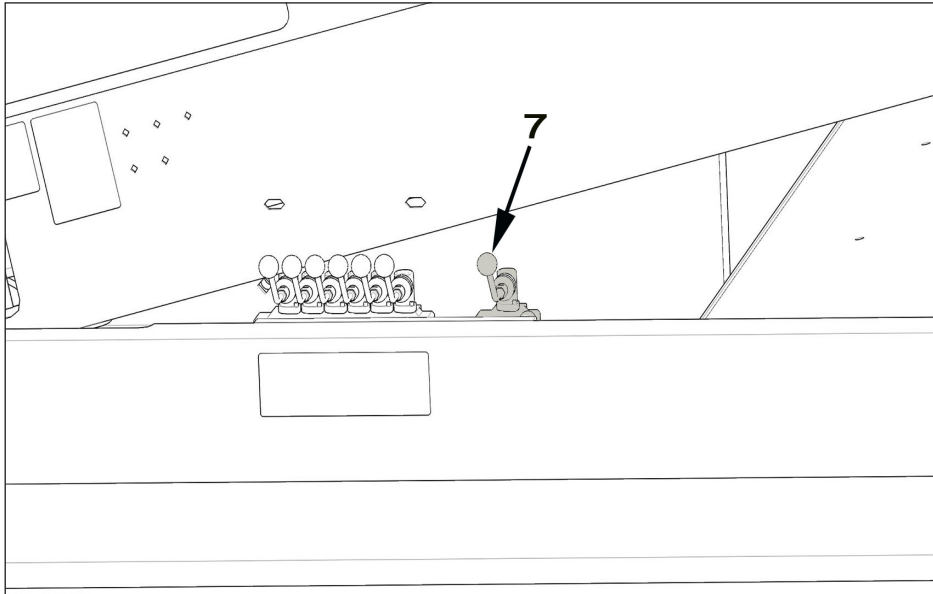
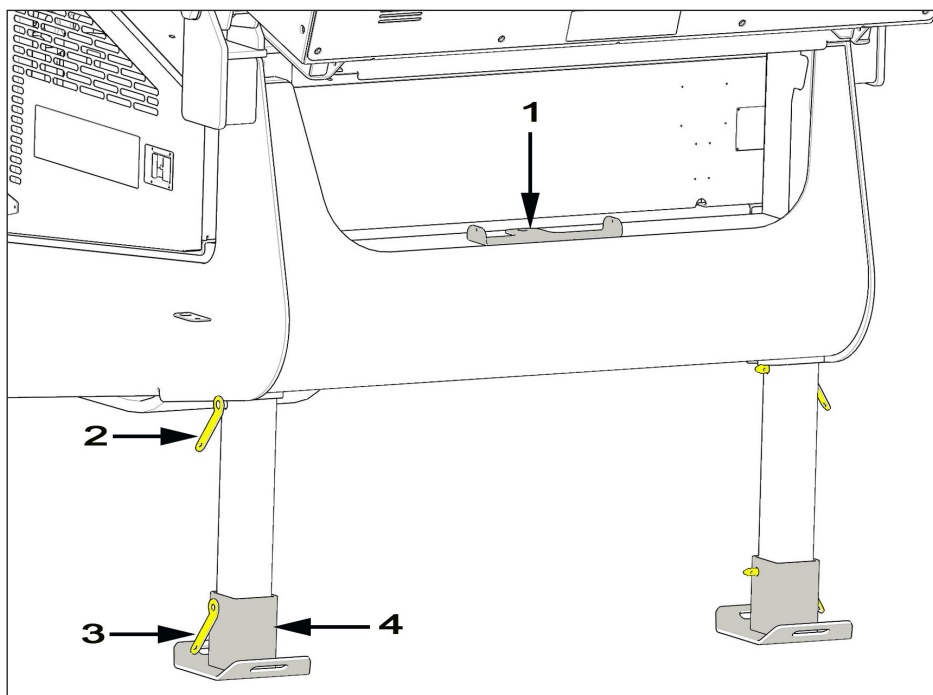

Figure 4.94 - Feeder Support Leg Lever.
Figure 4.95 - Feeder Support Legs
1. Remove the feeder support leg shoes from their transport location (1) Ref: Figure 4.95 and place on level ground under the support legs.
2. Lower the support legs into the feet (4) Ref: Figure 4.95 using lever (7) Ref: Figure 4.94 and fit pins (2 & 3) Ref: Figure 4.95.